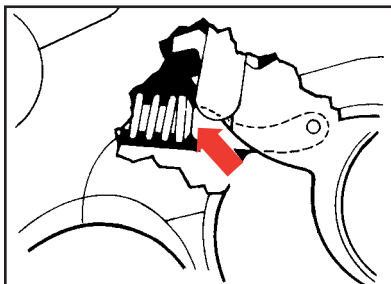

Figure 17
3. With the trigger forward, replace mainspring lever with mainspring and strut into frame. Be sure that the front end of the mainspring strut is properly positioned on the trigger link at the rear of the trigger (positioning can be seen by looking down through hammer slot). Then replace lever pivot pin (See Figure 17).